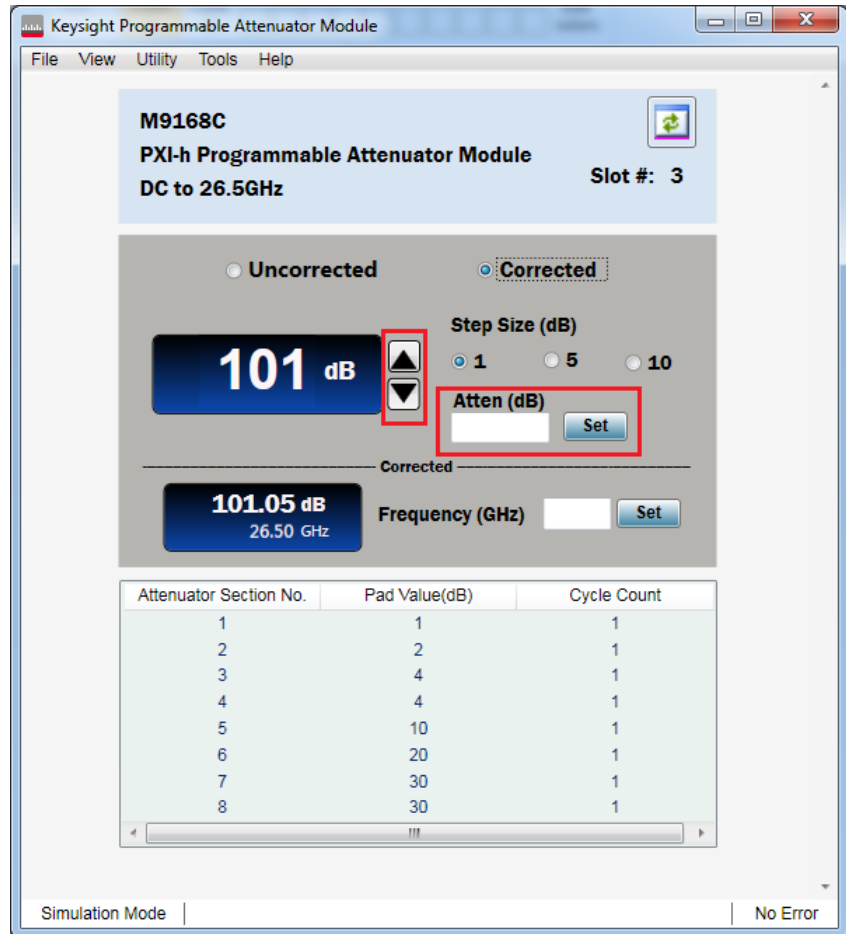
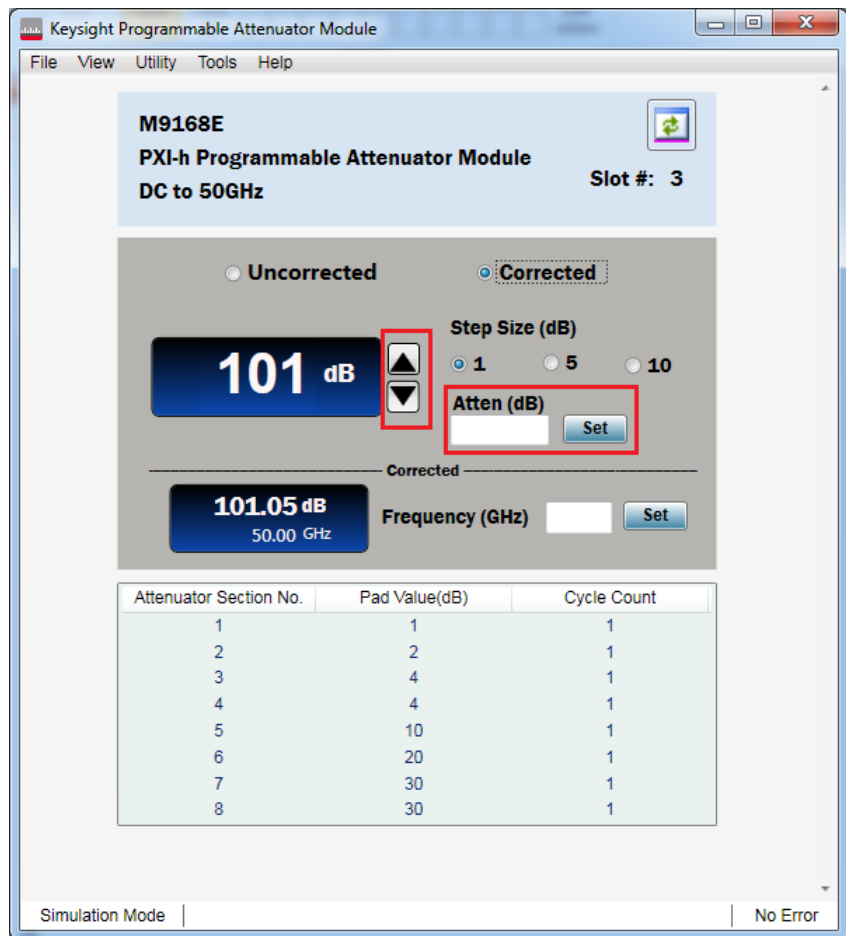
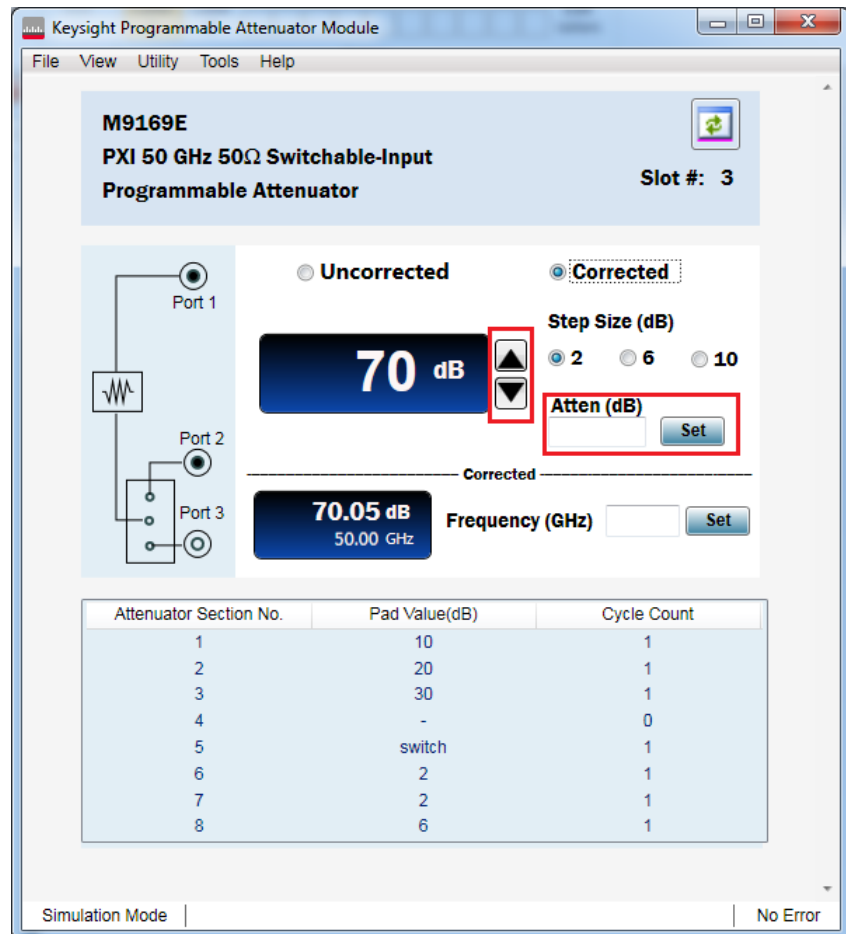

Figure 1-3 M9168C SFP verification
Figure 1-4 M9168E SFP verification
Figure 1-5 M9169E SFP verification
- 3 To verify that the M9168C/68E/69E is working properly, change the attenuation value by entering the value or clicking the up/down button to increase/decrease the value, as shown in Figure 1-3, Figure 1-4, and Figure 1-5. You will hear a “click” sound from the module.